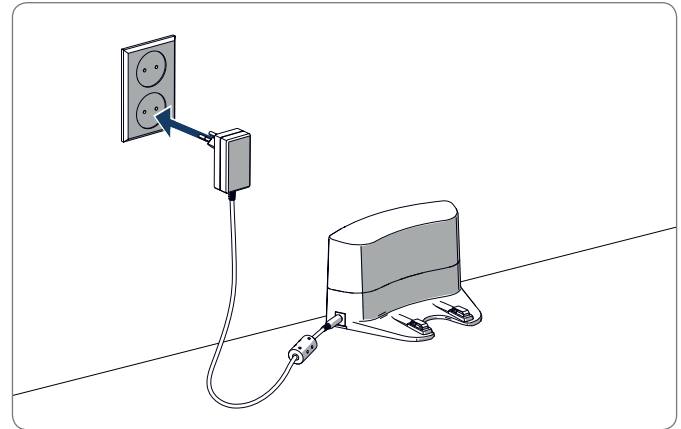
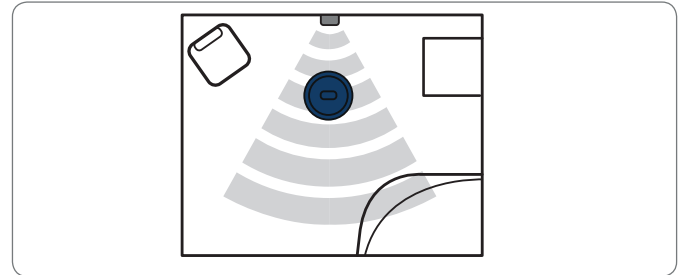

Figure 7 - Connecting the charging station to the mains
Figure 8 - Example of placement of the charging station
4. Connect the charging station to the mains, see Figure 7. The charging station will show a solid blue power light. Figure 8 shows an example of a possible floorplan.